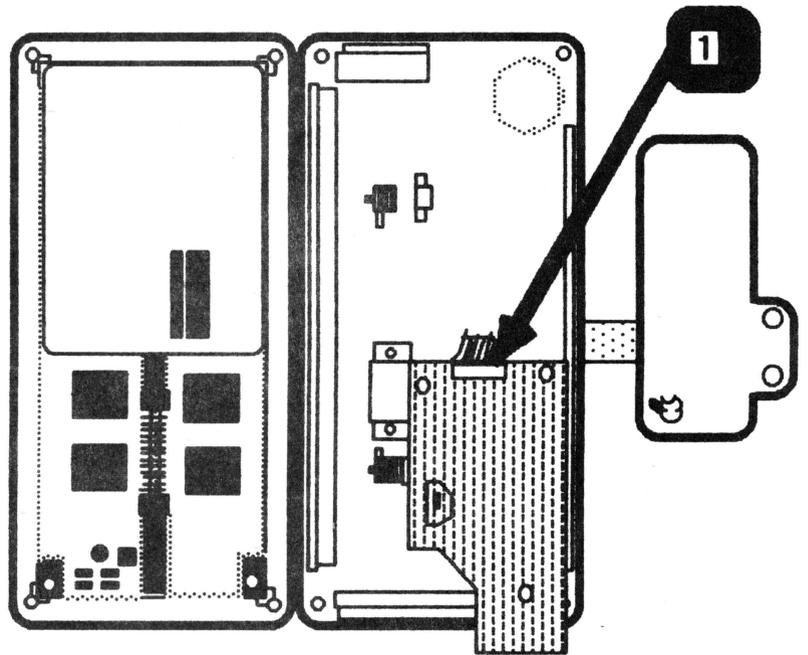

FIGURE 7
4. Flip the contrast card over so that you can easily access the ribbon cable connector (Figure 7, #1).
1. Connect the ribbon cable (coming from connector box) to the contrast card with the solid side of the connector facing up. (See Figure 7, #1.)